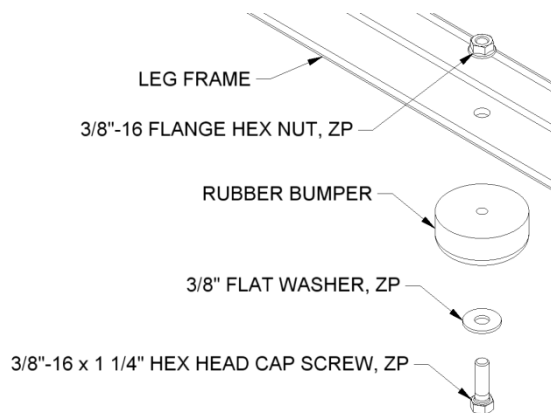

FIGURE: 1
1. Attach five rubber feet (bumpers) on the bottom of each leg as shown in figure 1.